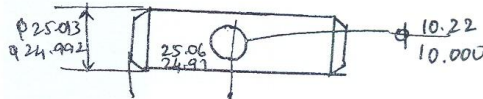

Fig. Q5(b)
b. Fig. Q5(b) below shows pin redimensioned for manufacture tolerance reduction has resulted. Also omitted limits (25.09/24.91) will not be exceeded. (12 Marks)